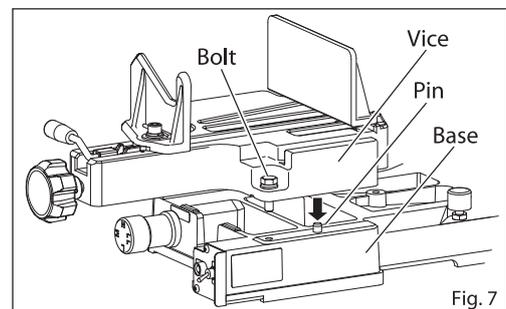

Fig. 7
- (3) Place the vice on the base, aligning the pins in the base with their corresponding holes in the vice. (Fig. 7)
- (4) Retighten the bolts.